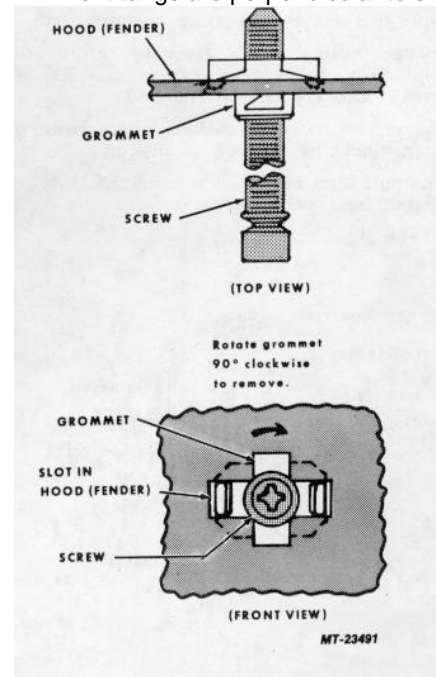

Fig. 8 Adjusting Screw Mounting Details
7. If required, replace headlight adjusting screw(s) as follows: (Refer to Fig. 8).